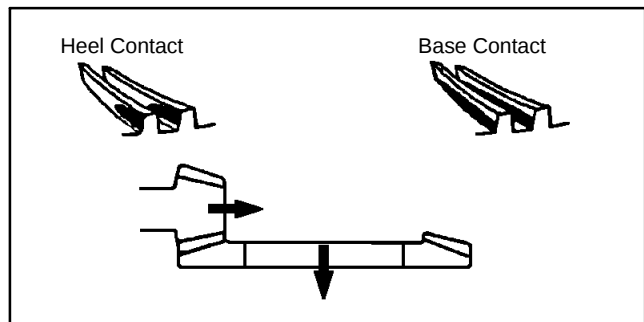

Figure 92
Study the different contact patterns (Figs. 92 and 93) and correct gear engagement as necessary.
1. If contact is toward the heel or base of the gear (Fig. 92):